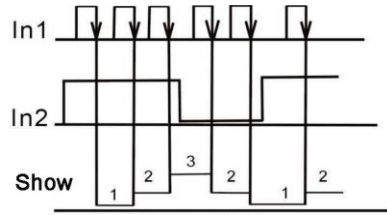

Figure 3-2
(2) Mode 2, reversible count mode (See figure 3-2):